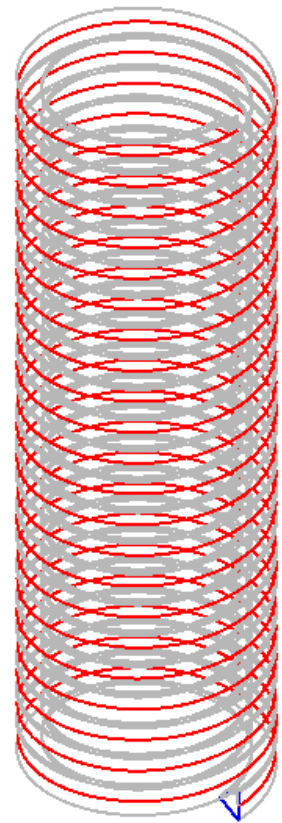

Figure Step 11
Step 11 Using the SWEEP command, sweep the profile using the helix as a path. (Figure Step 11)